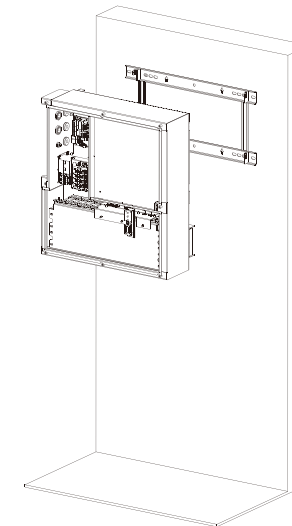

Figure 2.11 Install SMILE-B3
Step 6 Install SMILE-B3 on the wall bracket, as shown in Figure 2.11.